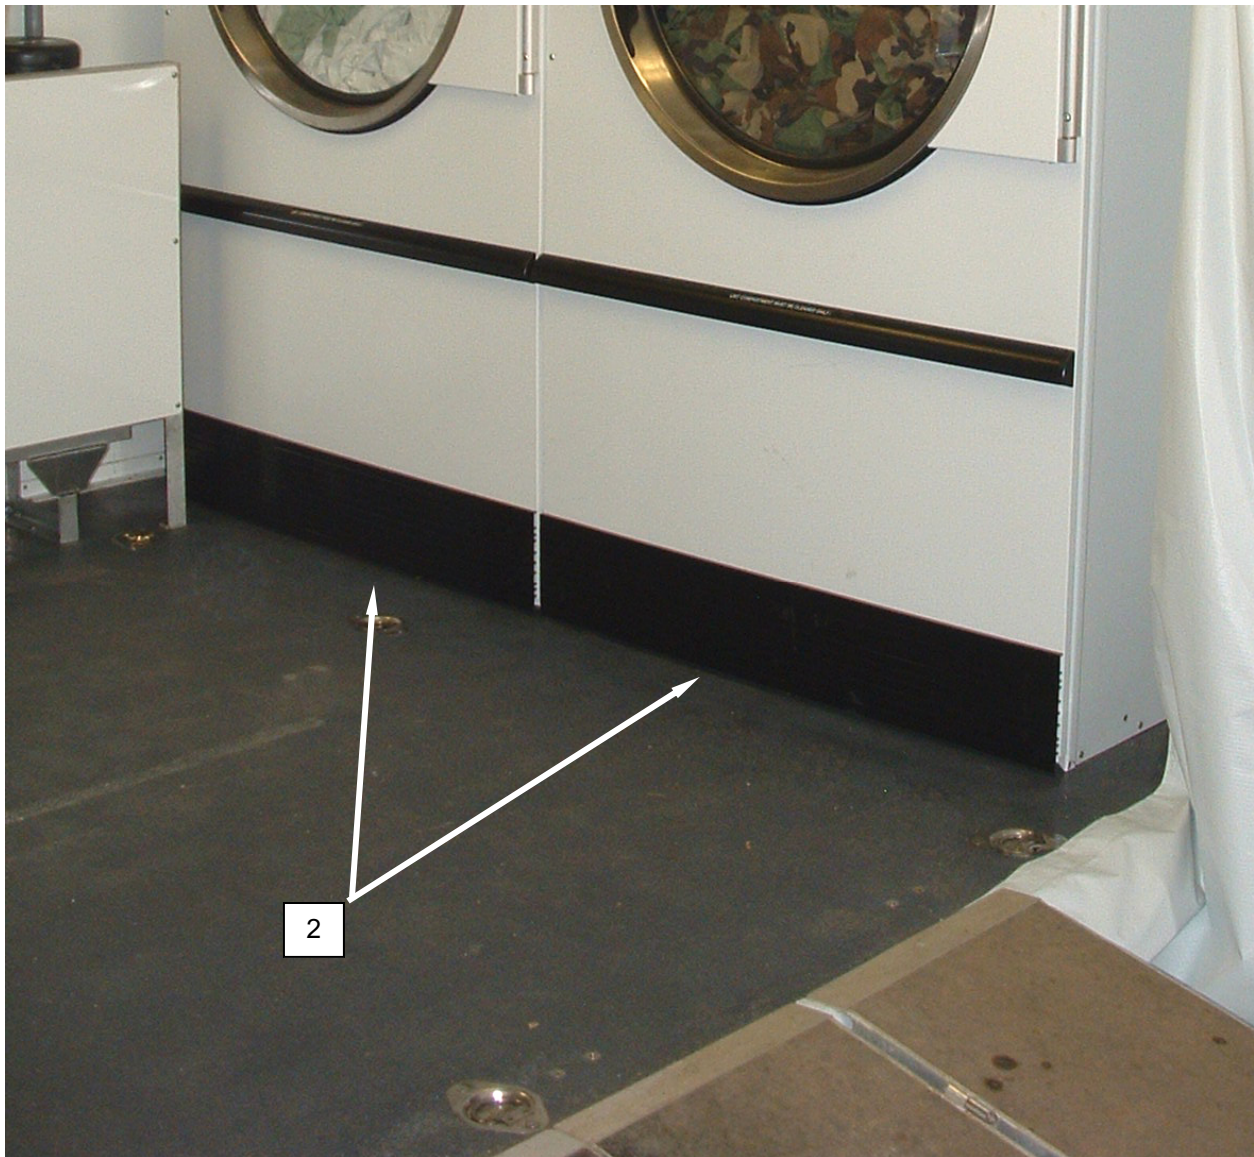

Figure 2. CBL Full Packout.
6. Remove dryer lint compartment doors (**Figure 2, Item 2**).